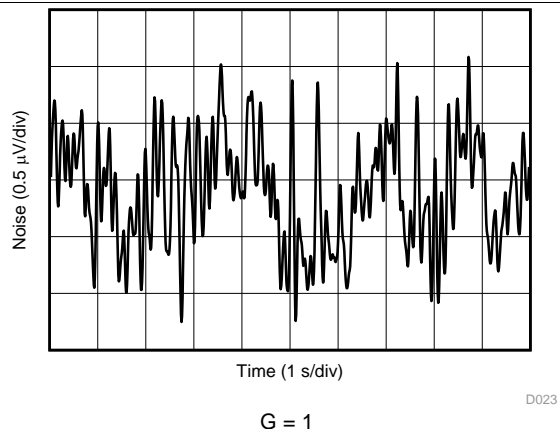

Figure 24. 0.1-Hz to 10-Hz RTI Voltage Noise, $G = 1$
0.1-Hz to 10-Hz RTI Voltage Noise, $G = 1$	Figure 24